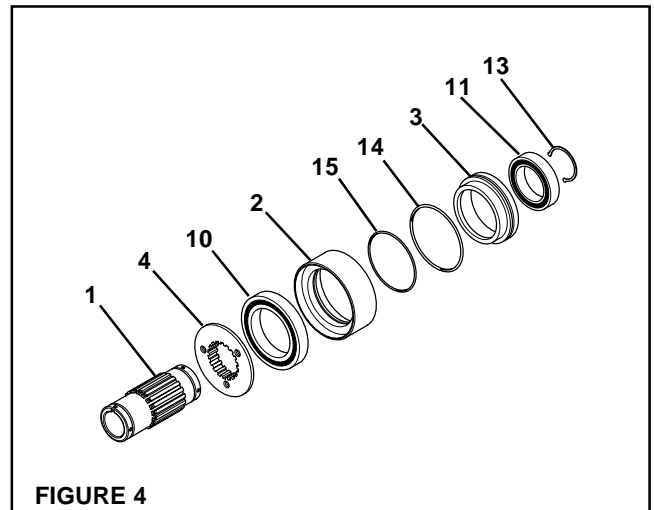

FIGURE 4
5. Remove the Retaining Ring (Item 13) (See Figure 4).
6. Press the Hub (Item 1) out of the Ball Bearing (Item 11) and Thrust Plate (Item 4) (See Figure 4).
7. Separate the Piston (Item 3) and Ball Bearing (Item 11) from the Cylinder (Item 2) and Ball Bearing (Item 10) (See Figure 4).
8. Remove and discard the old O-ring Seals (Items 14 and 15) (See Figure 4).
9. Press the old Ball Bearing (Item 10) and Thrust Plate (Item 4) out of the Cylinder (Item 2) (See Figure 4).
11. Press the old Ball Bearing (Item 11) out of the Piston (Item 3) (See Figure 4).
12. Clean the bearing bore of the Piston (Item 3) and Cylinder (Item 2) with fresh safety solvent, making sure all old Loctite® residue is removed (See Figure 4).
13. Apply an adequate amount of Loctite® 680 to evenly coat the outer race of the new Ball Bearings (Items 10 and 11) (See Figure 4).
14. Press the new Ball Bearing (Item 10) into the Cylinder (Item 2) and the new Ball Bearing (Item 11) into the Piston (Item 3) (See Figure 4).
15. Press the Thrust Plate (Item 4) into the Ball Bearing (Item 10) and Cylinder (Item 2) (See Figure 4).
16. Coat the new O-ring Seals (Items 14 and 15) and the o-ring contact surfaces of the Piston (Item 3) and Cylinder (Item 2) with a thin film of o-ring lubricant; then, install the new O-ring Seals into the Cylinder and Piston (See Figure 4).
17. Slide the Piston (Item 3) into the Cylinder (Item 2) (See Figure 4).
18. Press the Hub (Item 1) into the Cylinder (Item 2) and Piston (Item 3) (See Figure 4).
19. Reinstall the Retaining Ring (Item 13) (See Figure 4).